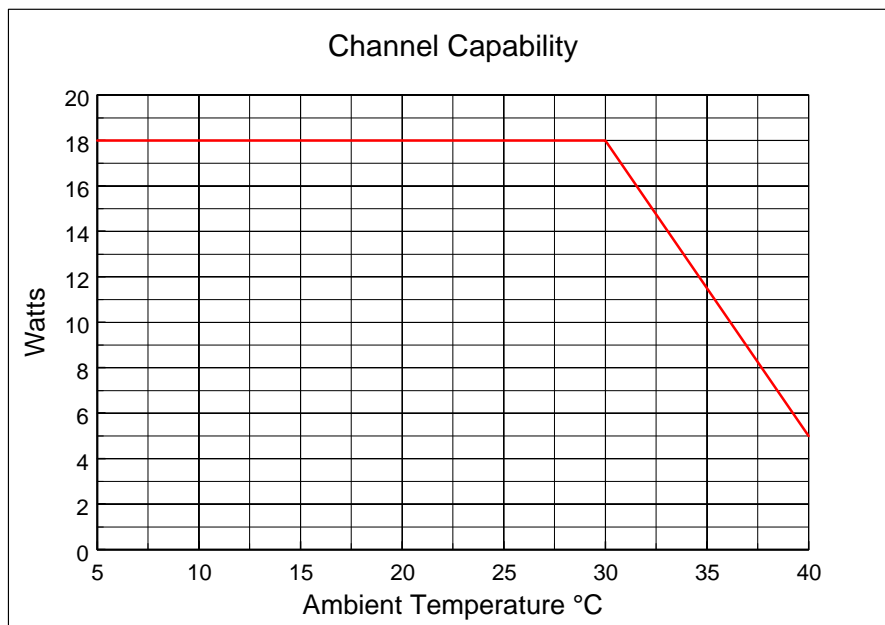

Figure 1 Channel Performance
2.1.2 Figure 1 shows the maximum cooling capability over the ambient temperature range.